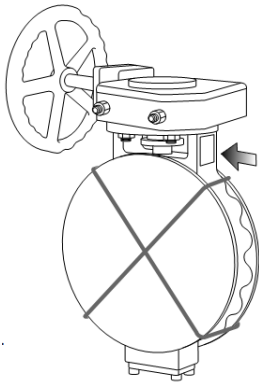

Fig. 2a
- Check valve nameplate (Item 19) to confirm materials of construction and product standards are correct for the intended service and as specified. (see fig. 2a and 2b)